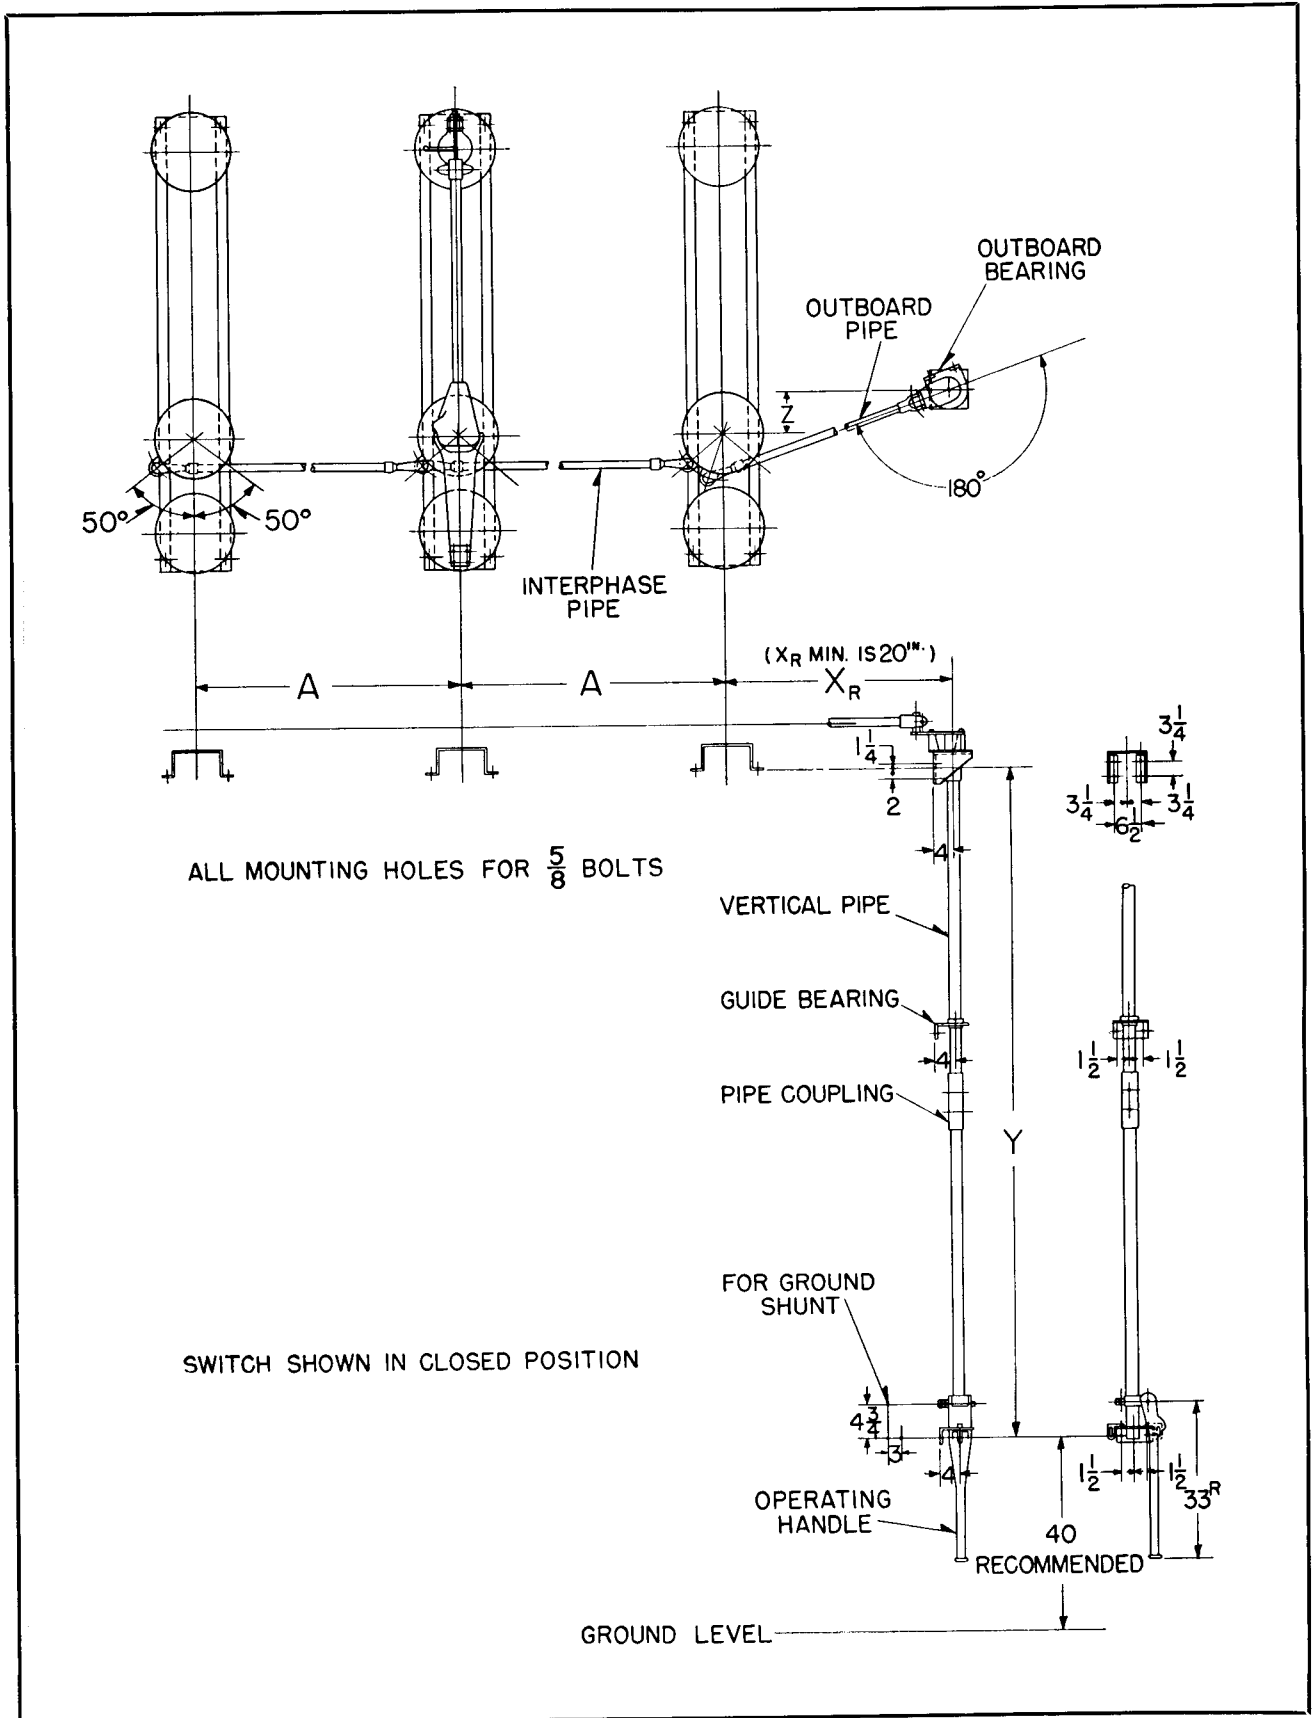

FIG. 6. Horizontally Mounted, 69 kv H.D. to 161 kv, 600-1200A Type V Switch with Double Offset "TP" Operating Mechanism
The operating mechanism on a particular switch should be assembled in accordance with the three pole outline drawing which is identified with the Style Number given on the switch pole unit nameplates. Figures 6 (TP), 7 (RP), and 8 (Geared TP) show typical mechanism arrangements.